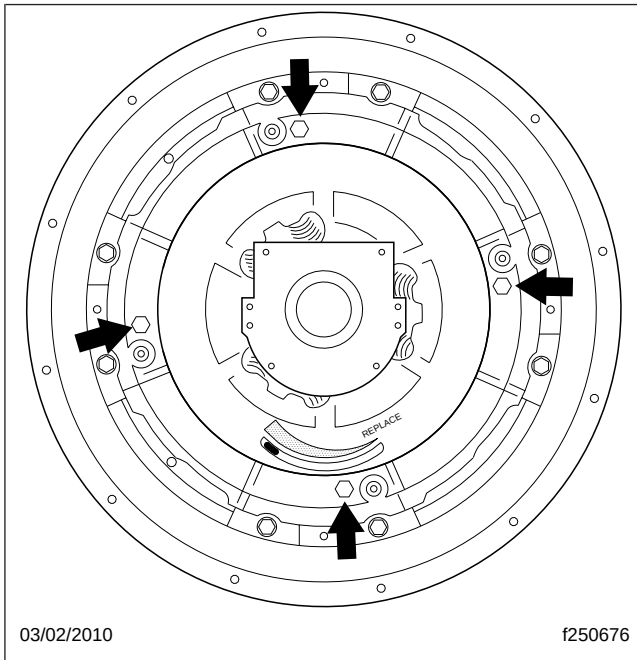

Fig. 7, Installed Shipping Bolts
1. Remove the four shipping bolts if they have been installed. See **Fig. 7**.
four clutch cover holes, and tighten them finger-tight. See Fig. 7.